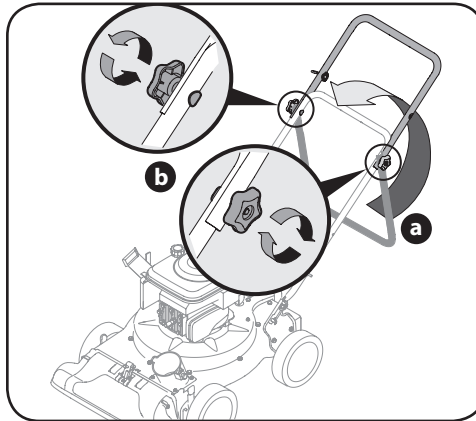

Figure 3-2
- Unfold the upper handle until it aligns with lower handle. Make sure the rope guide is on the right side of upper handle. See A in Figure 3-2.
- Secure the two handles by tightening the star knobs (carriage bolts must be seated properly into the handle). See B in Figure 3-2.